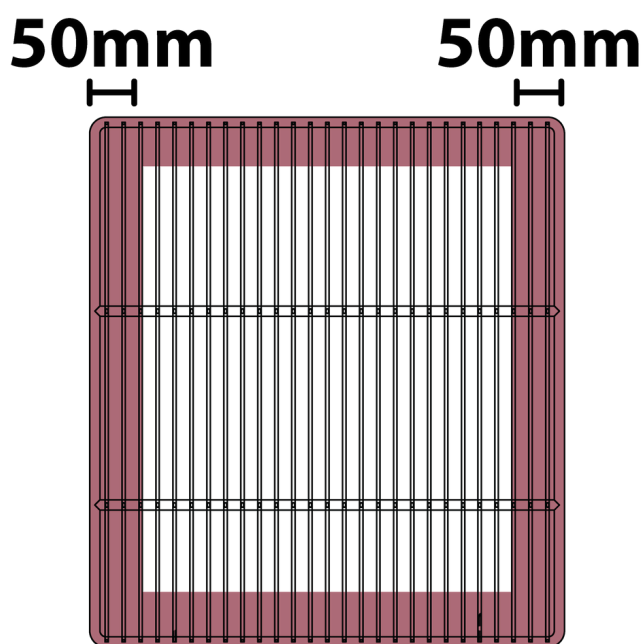

Fig 1.
- Ensure the highlighted area of the cabinet is clear of all obstructions to ensure that proper ventilation is allowed throughout the cabinet. (**Fig 1 & 2.**)